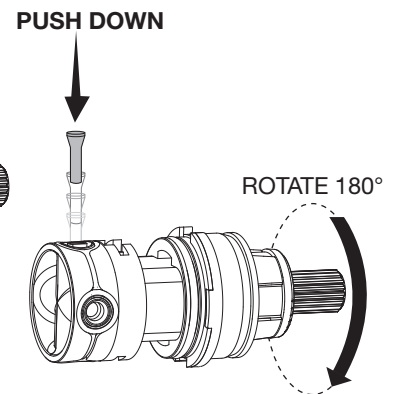

Figure 3A.
- Reinstall the venturi tube by pushing it in. As shown in FIGURE 3A.
- Reassemble BONNET NUT (2) and hand tighten.